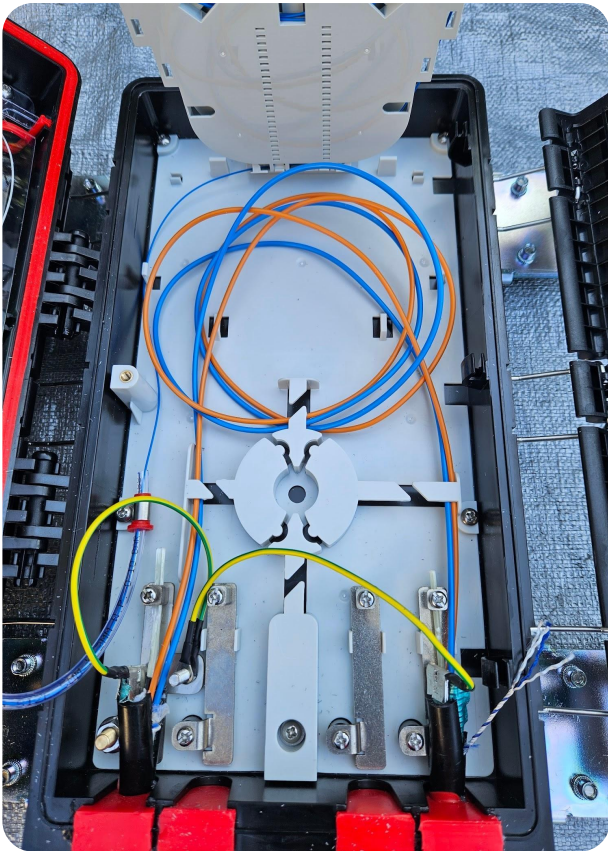

Fig. 10a
- Route buffer tubes from the microcable as shown in Fig. 10a.